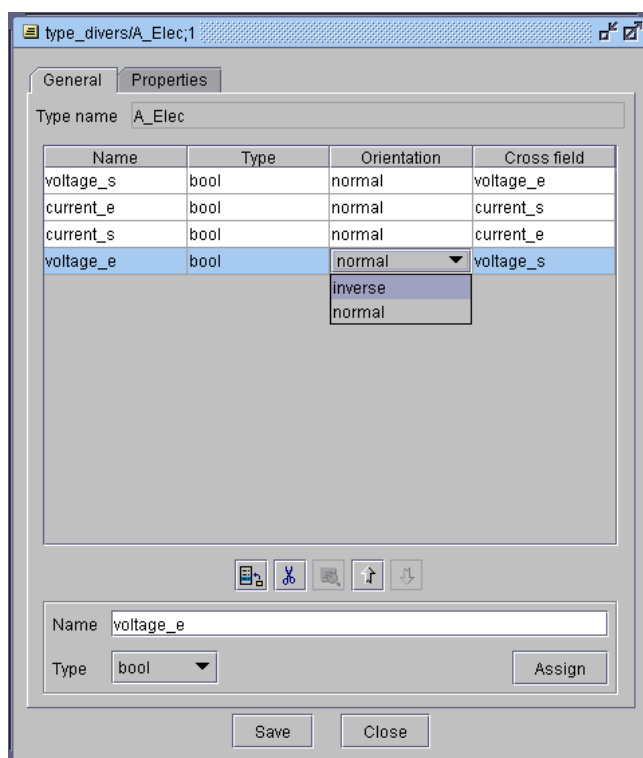

Figure 109 : Create flow structured type
- ◆ In the *Type editor* window (Figure 109) and in the *Type name* field, type the name.